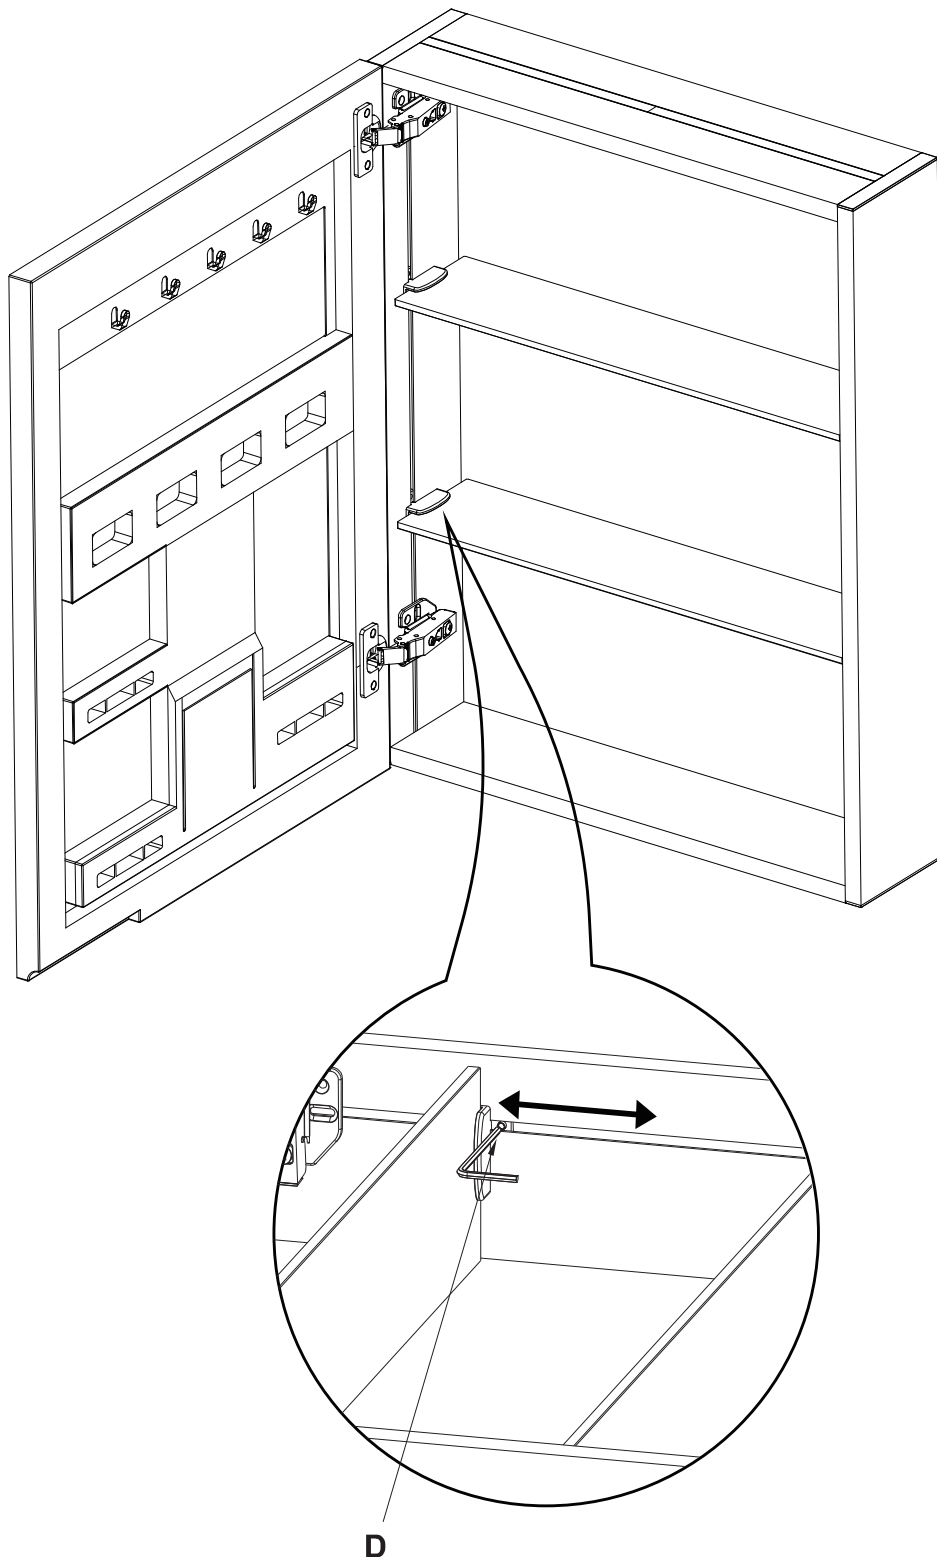

Fig. 10
4. Loosen the snap screw (D) of the shelf to adjust the shelf position. (Fig 10)